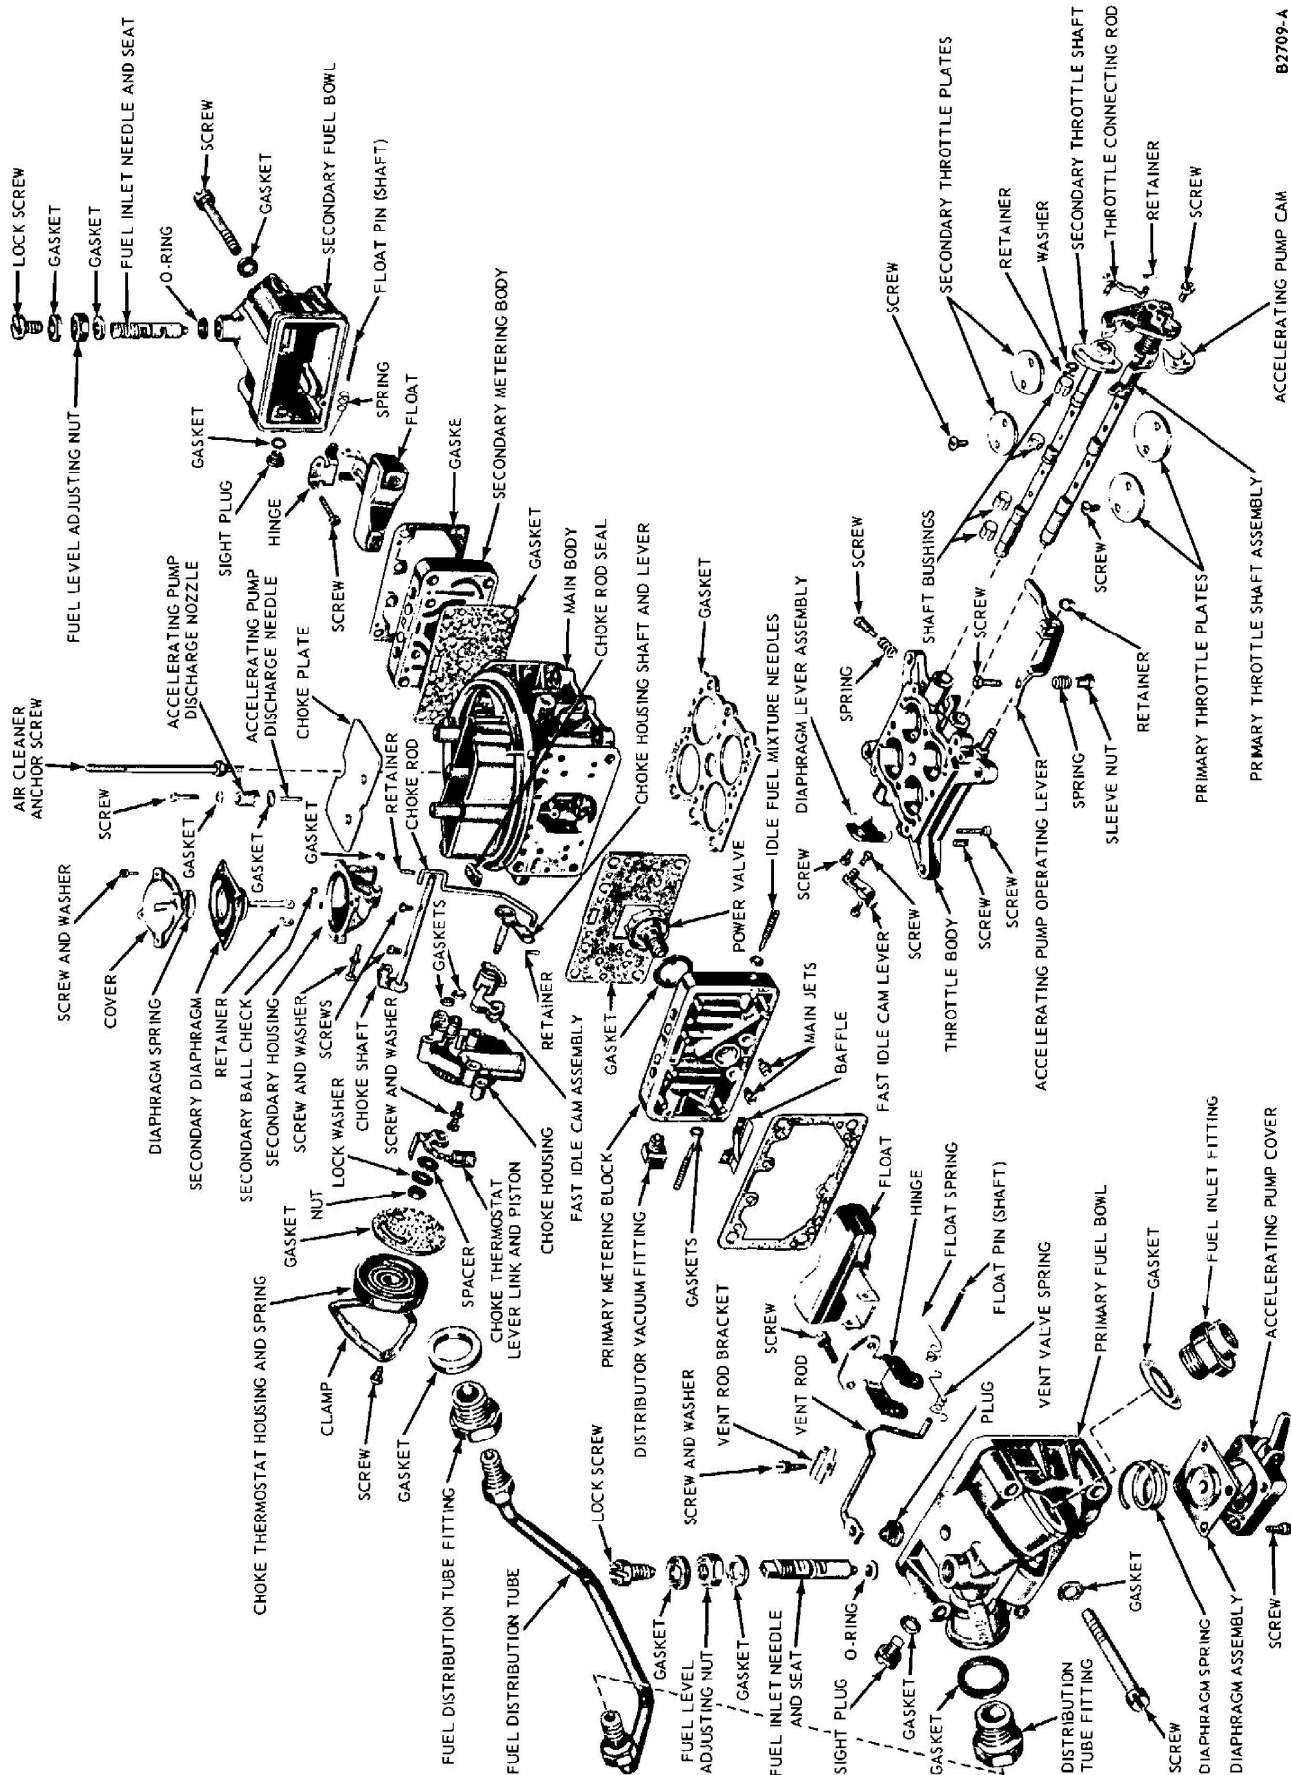

FIG. 18—Holley 4-V Carburetor Assembly
Refer to Fig. 18 for identification
The carburetor assembly is shown in Fig. 18.
Refer to Fig. 18 for the correct location of the parts.
1. The secondary diaphragm housing must always be installed before the choke housing. Drop the vacuum ball check in the vacuum port of the secondary diaphragm housing; then, position the secondary diaphragm in the housing and place the spring in the cover (Fig. 18).
1. Position the choke plate shaft in the air horn and install the choke plate in the shaft (Fig. 18). Install the rod seal on the choke rod. Slide the U-shaped end of the choke plate rod through the opening in the main body and insert the rod end through the inner side of the bore in the choke lever. The rod end must face outward. Push the rod seal into the retaining grooves on the underside of the air cleaner mounting flange.